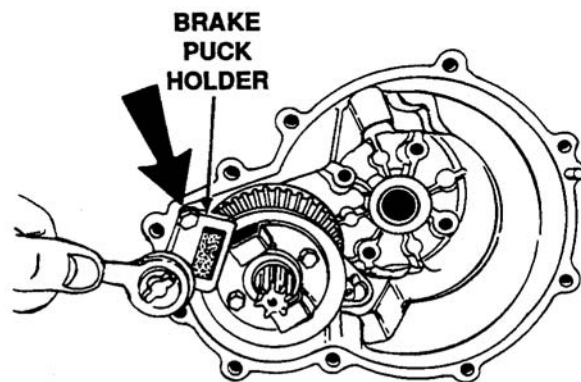

Figure 5-12. Brake Puck Holder
13. Remove the brake puck holder by removing the two hex bolts with a 3/8 inch wrench. See Figure 5-12.